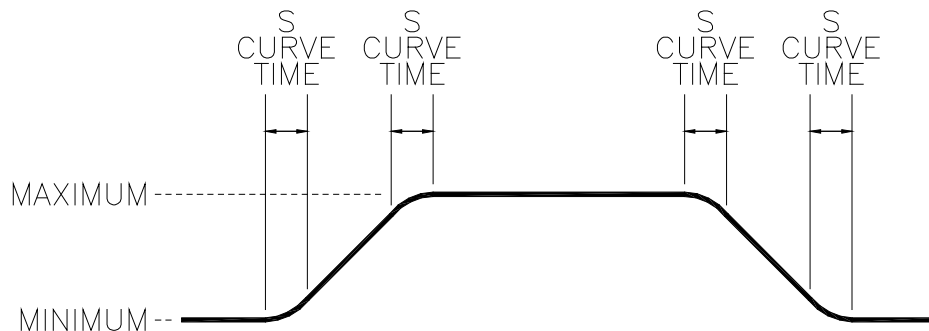

Figure 4: S Curve Adjustment
This adjustment softens the ramping transitions by gradually changing the linear accel or decel rate. The single adjustment affects all four points. A fully counter-clockwise (CCW) position defines no S Curves and fully clockwise (CW) defines a 5 second S Curve time. Refer to **Figure 4** below. The S Curve time adds to the linear accel or decel time. Thus, for a linear accel time of 10 seconds and an S Curve time of 2 seconds, the total acceleration time from minimum to maximum would be 14 seconds (2+10+2). Depending upon the adjustments and the signal levels, some ramps may be composed entirely of S Curves and contain no linear segment.